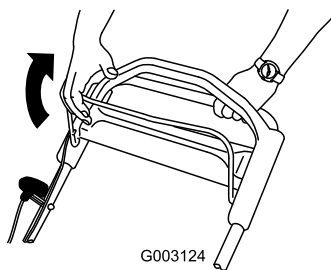

Figure 23
2. Pull the blade-control bar to the handle (Figure 23).